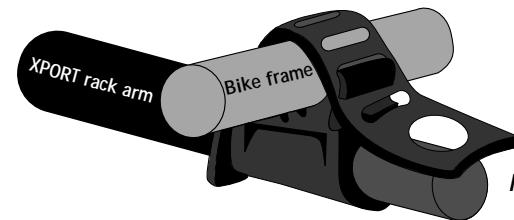

Figure 4
11. Secure the bikes onto the Bike Blocks with the rubber strap by pulling it tight around the bike frame. Make sure the hook portion of the Bike Block cradle is inserted completely into the oval of the rubber strap (see figure 4). Use care to not cut or tear the rubber strap. Do not use a Bike Block that is cut or torn. Replacement Bike Blocks are available.